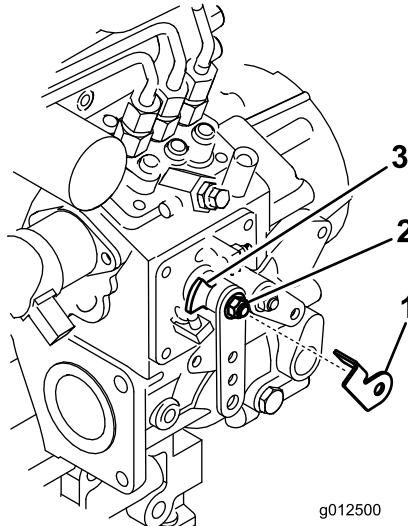

Figure 4
1. Remove the nut and washer securing the speed control lever to the governor shaft (Figure 4).
2. Insert the throttle stop onto the governor shaft so the tab rests against the flat on the speed control lever (Figure 4).